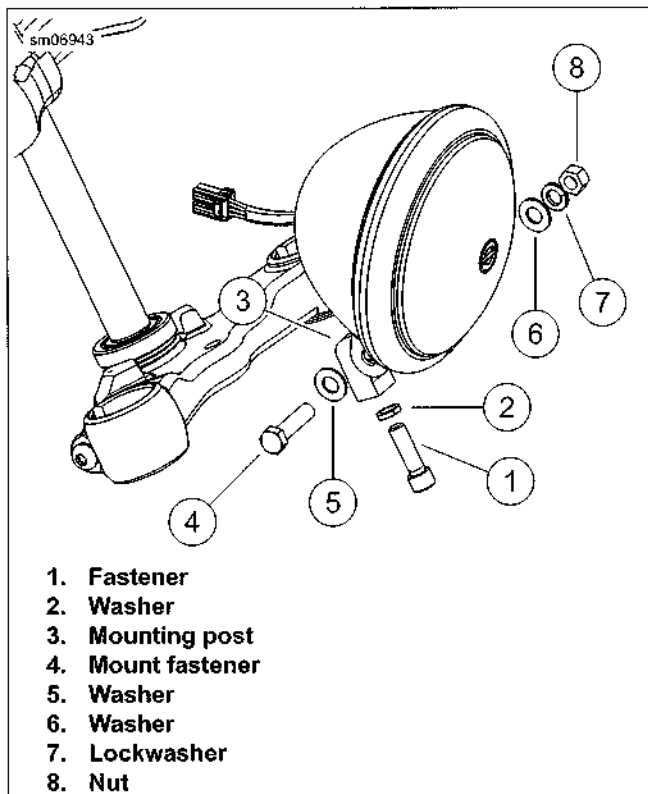

Figure 6-35. Headlamp Assembly Mount: XL 1200X
2. See Figure 6-35. Install fastener (1), washer (2) and mounting post (3). Tighten to 30-35 ft-lbs (41-47 Nm).
3. Install headlamp with fastener (4), washer (5). Secure with washer (6), lockwasher (7) and nut (8). Hand tighten.